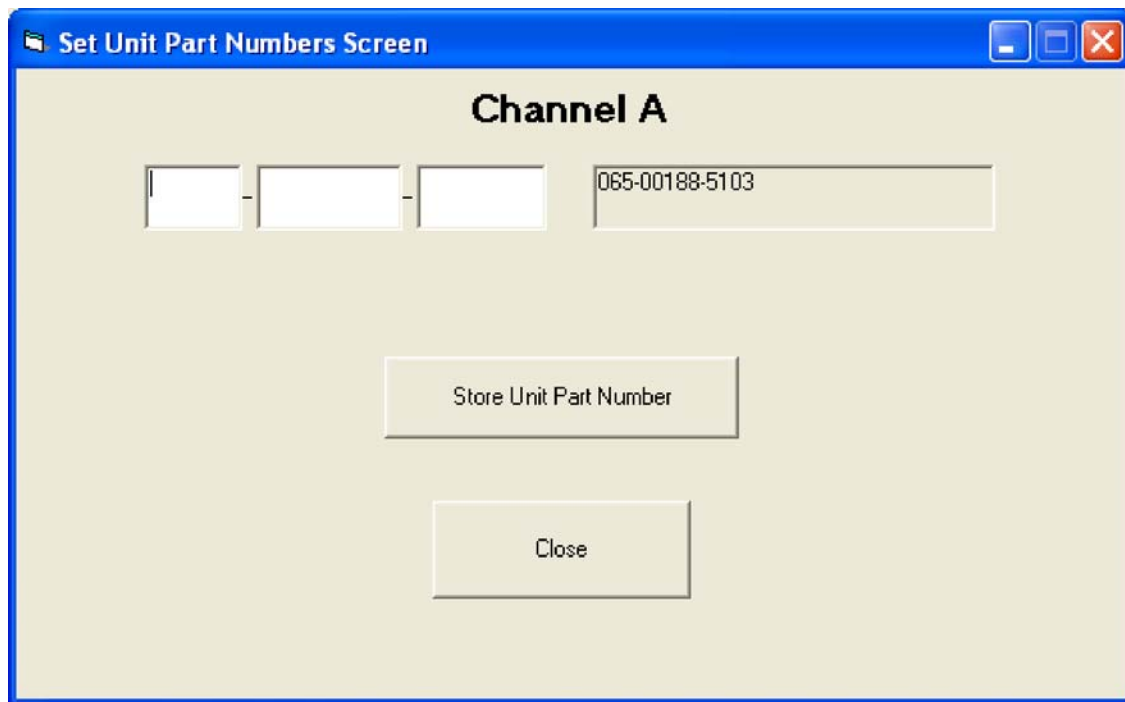

Figure 43. (Sheet 1 of 1) Set Unit Part Numbers Screen Window
- (3) The Set Unit Part Numbers Screen window will appear. Refer to Figure 43.